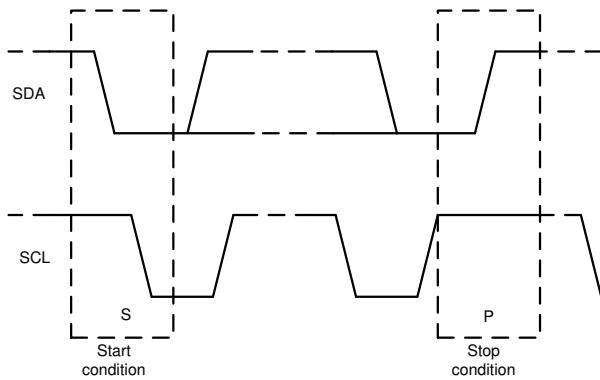

**Figure 7-18. Acknowledge and Not Acknowledge on the I2C Bus**
Other than specific timing signals, the I2C interface works with serial bytes. At the end of each byte, a ninth clock cycle generates and detects an acknowledge signal. An acknowledge is when the SDA line is pulled low during the high period of the ninth clock cycle. Figure 7-18 depicts a not-acknowledge, when the SDA line is left high during the high period of the ninth clock cycle.
2. The controller then generates the SCL pulses, and transmits the 7-bit address and the read/write direction bit (R/W) on the SDA line. During all transmissions, the controller makes sure that data are valid. Figure 7-20 shows that a valid data condition requires the SDA line to be stable during the entire high period of the clock pulse. All devices recognize the address sent by the controller and compare the address to the respective internal fixed address. Only the target device with a matching address generates an acknowledge by pulling the SDA line low during the entire high period of the 9th SCL cycle (see also Figure 7-18). When the controller detects this acknowledge, the communication link with a target has been established.